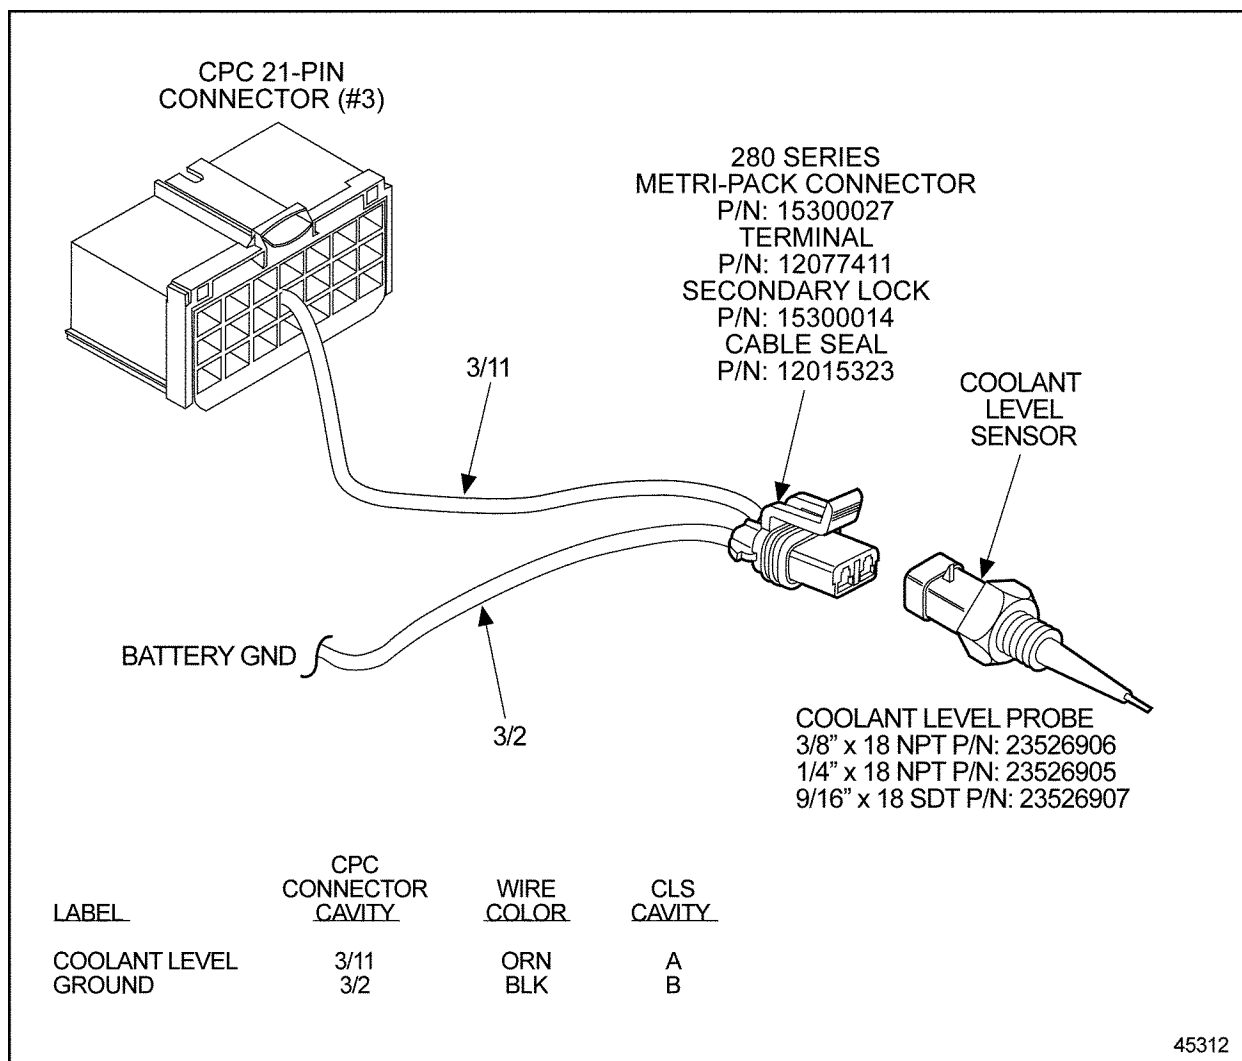

Figure 10-4 Engine Coolant Level Sensor Installation for CPC
1. Disconnect the ECL Sensor. See Figure 10-4.